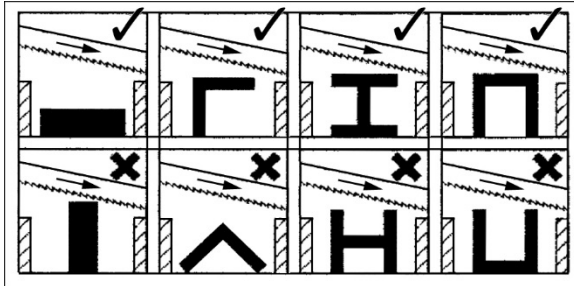

Figure 23: clamping positions
- Position workpiece in vise and tighten vise. Workpiece should be fitted directly between jaws without adding other objects. When workpiece is profiled section, flat piece or special shape, refer to examples in Figure 23 for proper clamping positions. The top row